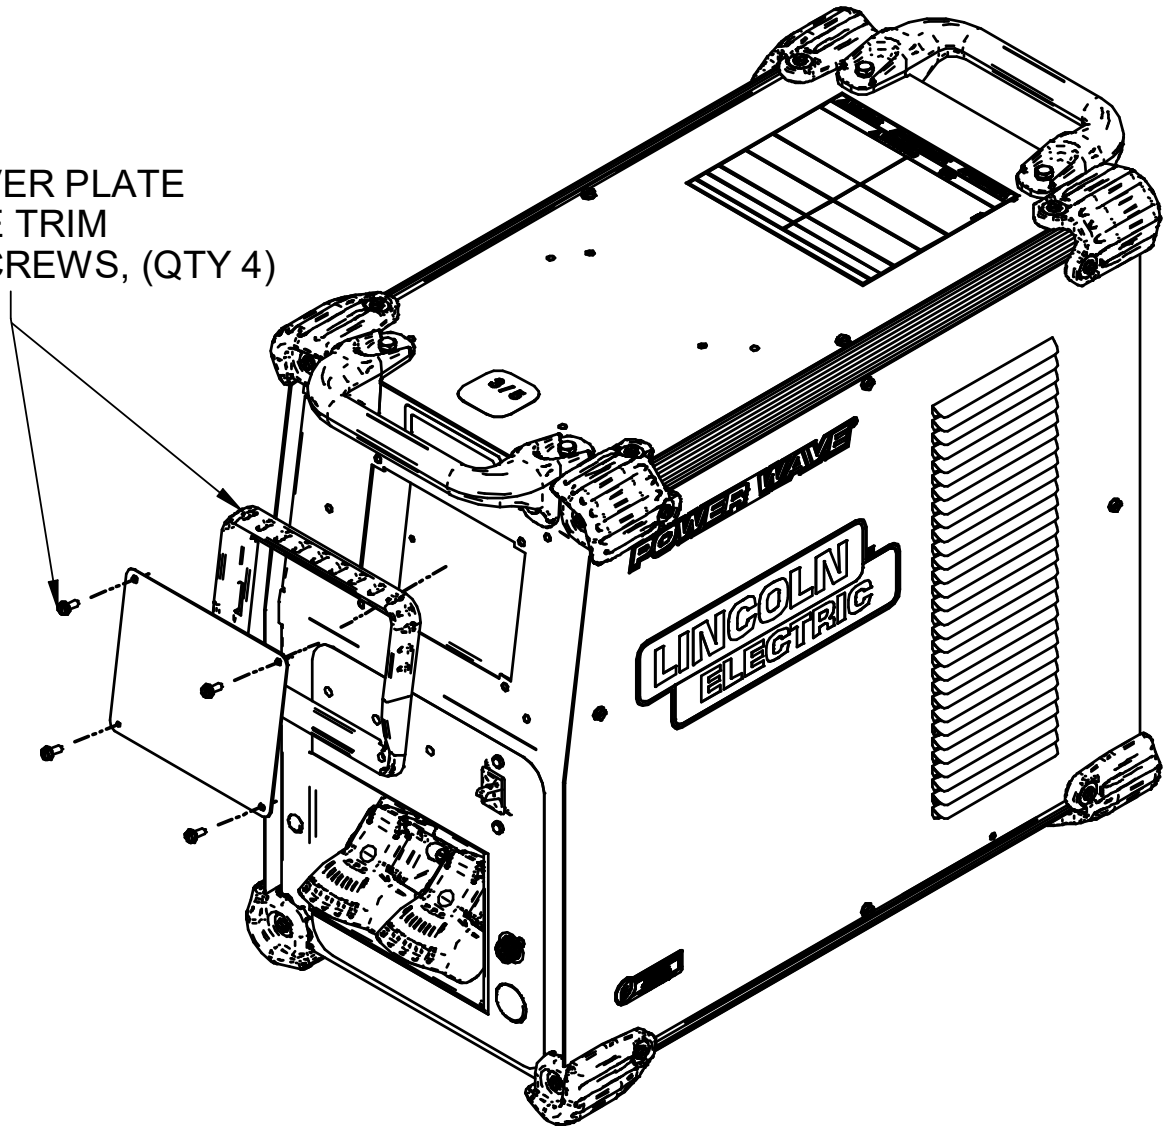

FIGURE 1
3. Remove the UI cover plate and outside trim by removing the four screws fastening the cover plate to the power source using a 5/16" nut driver or other suitable tool (**Figure 1**). Retain the mounting hardware removed for installing the Power Wave Connectivity Hub Kit.